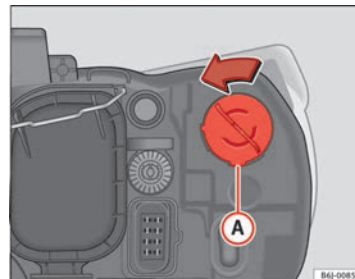

Fig. 163 Turn signal
- Turn bulb holder ⇒ Fig. 163 ① to the left and pull. ▶